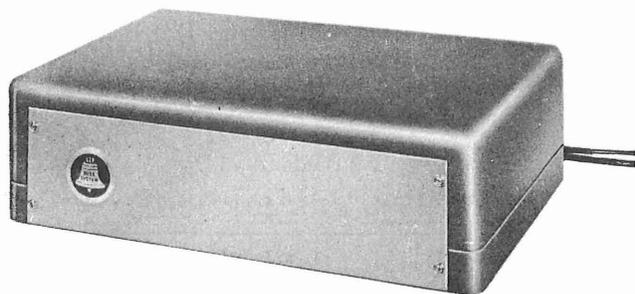

Fig. 1 - Data Set 103C
3.01 Data set 103C is enclosed in a dark gray cabinet having a hinged cover (Fig. 1).